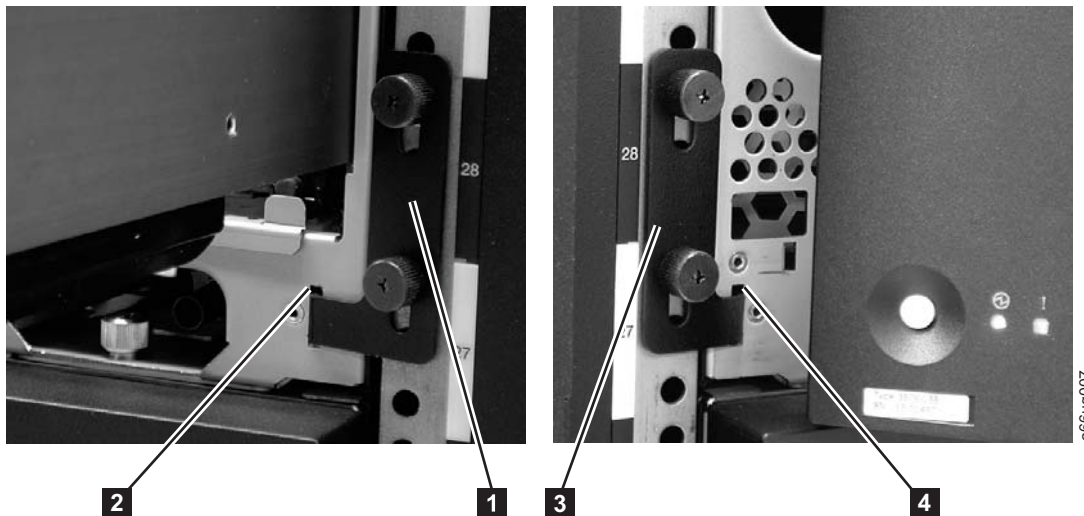

Figure 12-15. Removing the rack ears (Control Module shown)
2. Remove the right rack ear (**1** in Figure 12-15).
3. Remove the left rack ear (**3** in Figure 12-15).
2. Replace the right rack ear (**1** in Figure 12-15 on page 12-16).
- a. At the bottom right of the I/O Station position on each library unit, there is a slot (**2** in Figure 12-15 on page 12-16). Insert the right rack ear into the slot.
3. Replace the left rack ear (**3** in Figure 12-15 on page 12-16).
- b. Insert the left rack ear into the slot (**4** in Figure 12-15 on page 12-16).